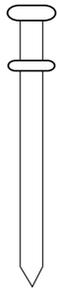
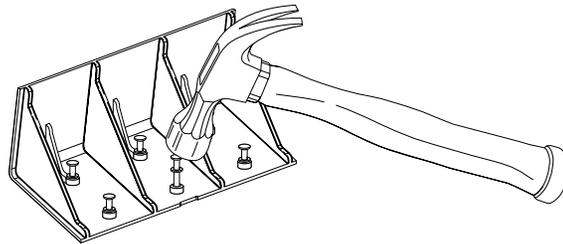
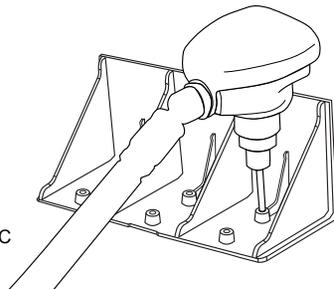

Figure 3A
Figure 3B
Figure 3C
- 3 Installation of Floor Brace® XL:** Place Floor Brace XL in desired position against freight, making sure not to place nail holes over flooring cross members or fasteners. Hammer six Floor Brace Nails (Figure 3A) through nail holes directly into the trailer or container floor (Figure 3B). For faster, easier installation use a palm nailer (Figure 3C).